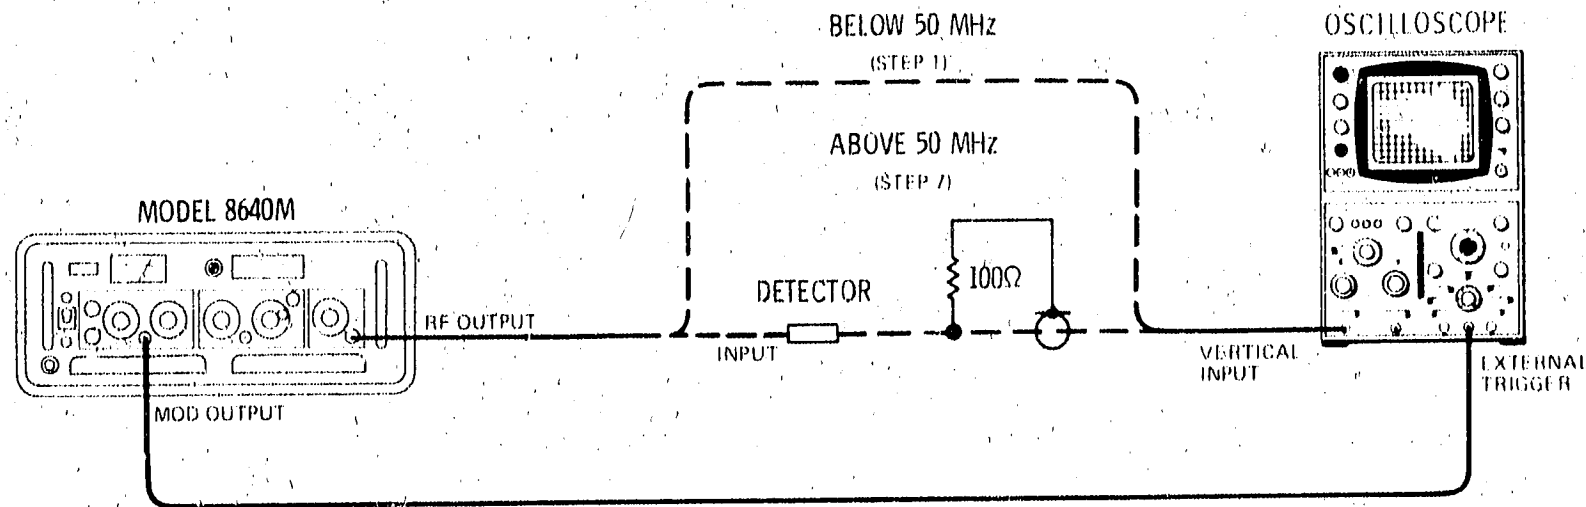

Figure 4-12. Pulse Modulation Test Setup
1. Connect equipment as shown in Figure 4-12, with oscilloscope connected directly to test generator's RF OUTPUT, after setting test Signal Generator's controls as follows:
6. Connect detector and 100 Ω detector load to RF OUTPUT as shown in Figure 4-12. Set OUTPUT RANGE switch to +10 dBm.